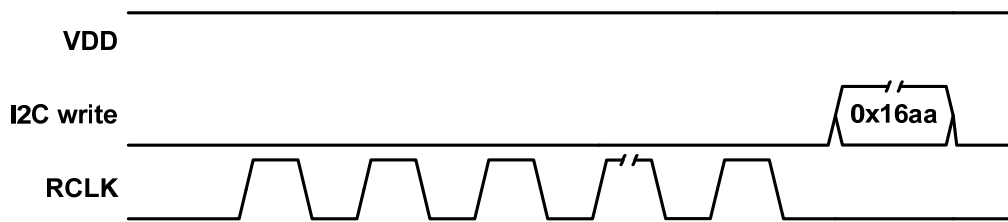

Figure 2. Power down sequence
1. Write 0x16AA to address 0 to power down the device. See Figure 2.